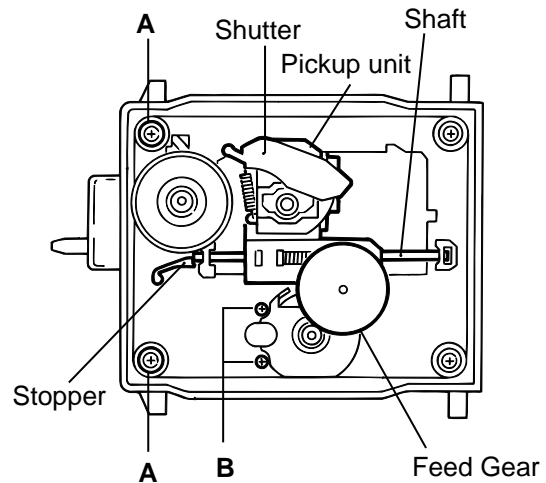
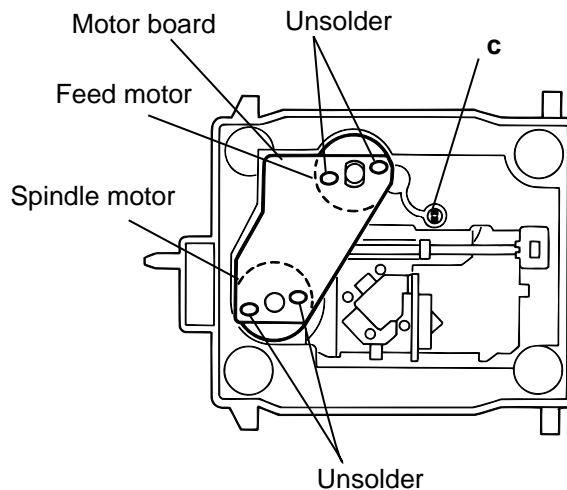

Fig.1
Fig.3
1. Loosen the two screws **A** fixing the chassis.(Fig.1)
2. Removing the feed gear stopper **c** on the bottom of the mechanism and pull out the gear. (Fig.1, Fig.3, Fig.4)
3. Pull out the shaft by opening the pickup shaft stopper outward to unlock.(Fig.1, Fig.2)
4. Removing the pickup unit.(Fig.1)
1. Unsolder the motor terminal on the motor board.(Fig.3)
2. Remove the motor board.(Fig.3)
Remove the two motor fixing screws at **B** and removing the feed motor.(Fig.1, Fig.3)